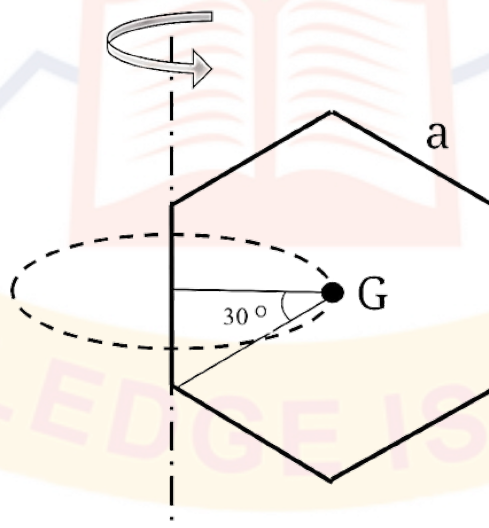

Figure 9
- (b) A regular hexagon of side length "a" as shown in Figure 9 is rotated about one of the sides. Apply suitable theorem to find the volume of the solid of revolution. (4 marks)